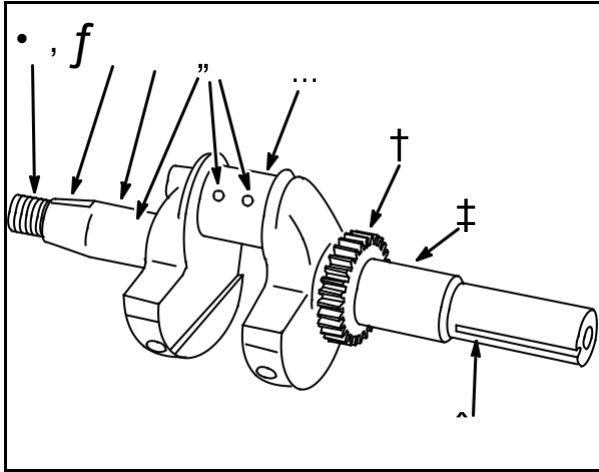

Fig. 1
Inspect crankshaft threads (1) and keyways (2, 8), **Fig. 1**. Replace crankshaft if threads or keyways are damaged or worn. Check magneto (3) and PTO (7) journals for scoring. Measure journals for wear. Replace crankshaft if journals are scored, or worn past reject sizes listed in Section 13.